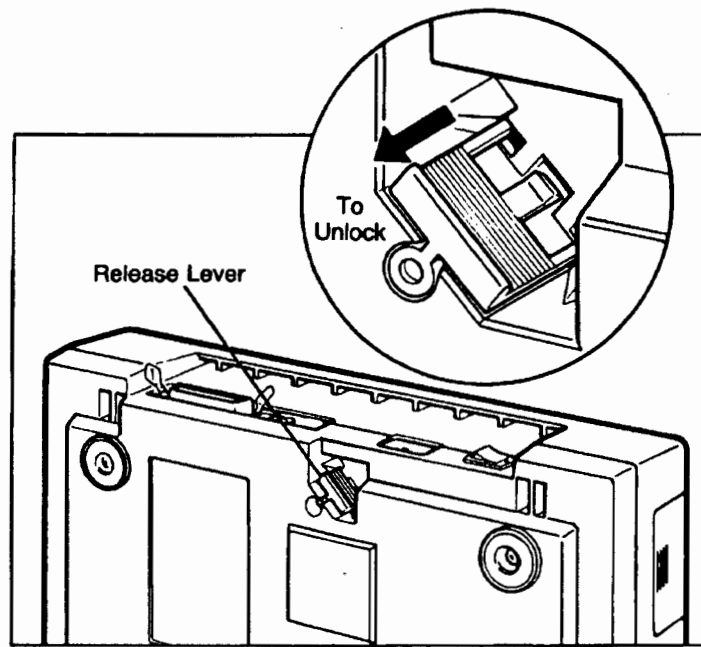

Figure 1-6. Unlocking the ScanJet Plus Scanner
3. Slide the release lever out from the scanner until the bottom of the release lever is even with the scanner body and you feel a click. See figure 1-6.